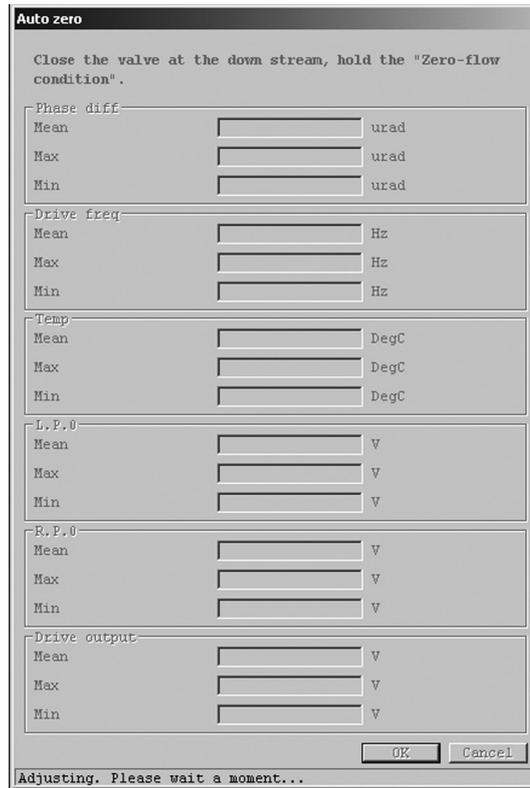

Fig.132
- ④ Click the "OK" button to adjust the zero point. While this adjustment is occurring, a message at the bottom of the window will indicate that the system is "Adjusting. Please wait", as shown in Fig. 132.
- ⑥ Click the "OK" button to return to the window shown in Fig. 132, then click the "Cancel" button to exit "Autozero".